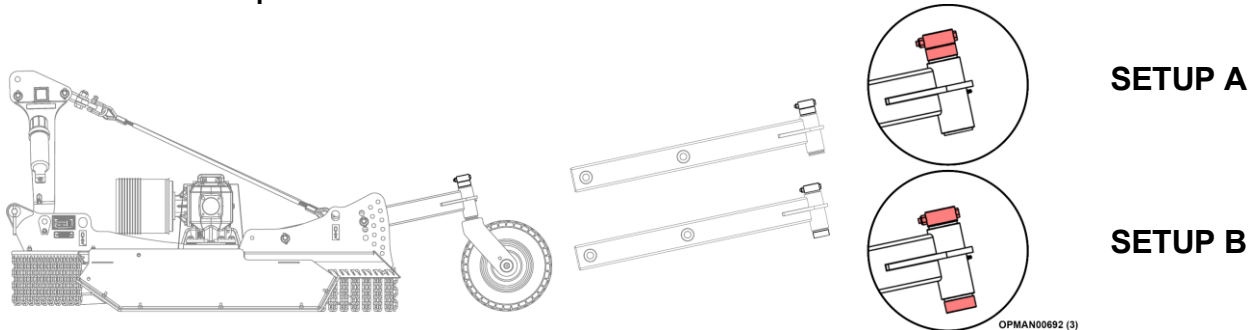

Figure 4.15
3. Wheel yoke spacer positions (3, Figure 4.15)